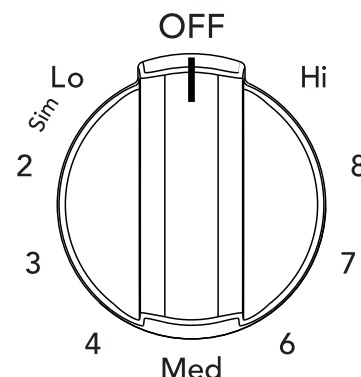

Figure 7: Single element knob
2. Push in and turn the surface control knob in either direction (Figure 7) to the desired setting (refer to the “Suggested radiant surface element settings” in Table 1).
Start most cooking operations on a higher setting and then turn to a lower setting to finish cooking. The surface control knobs do not have to be set exactly on a particular spot. Use the graphics provided as a guide and adjust the control knob as needed (see Figure 7).